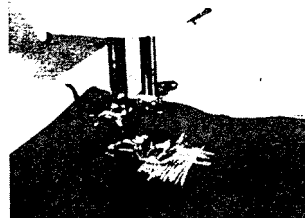

Fig. 35
- 2) Then sew according to the woof across the torn area. (Fig. 35)